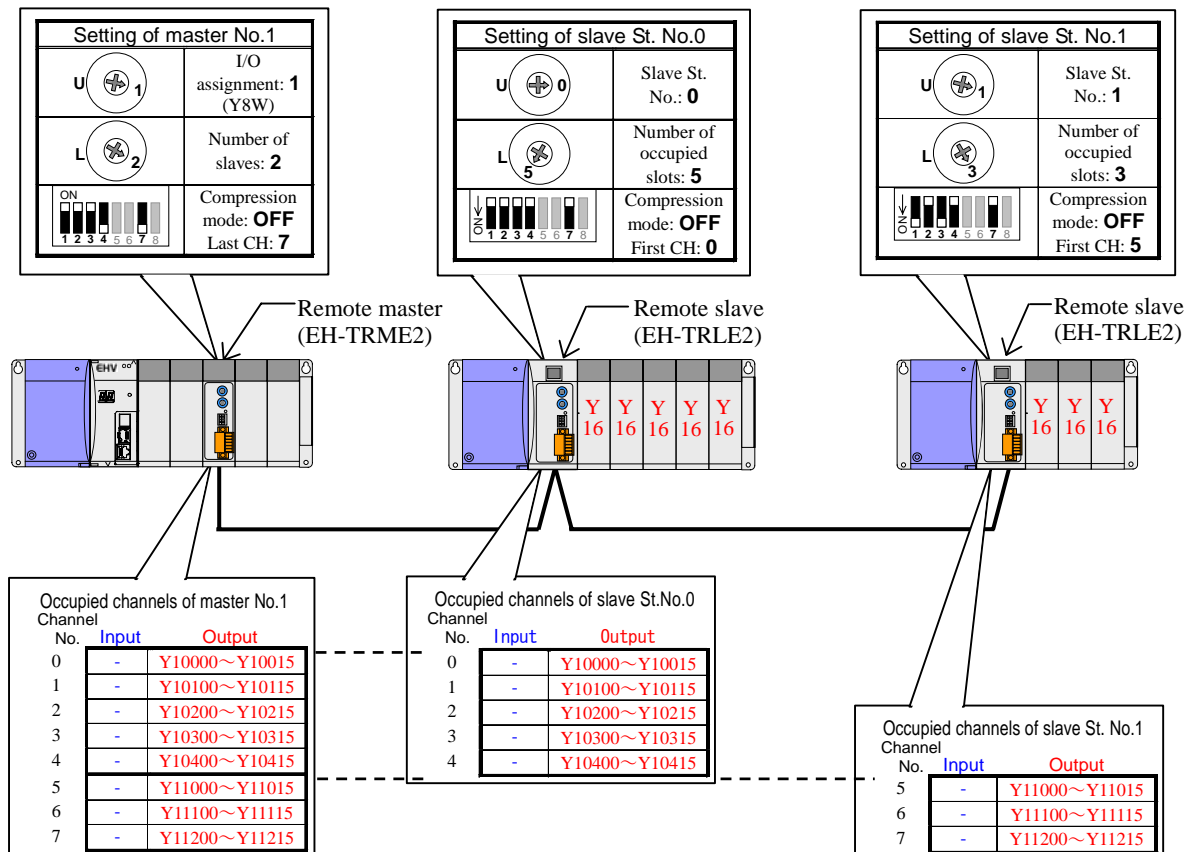

Figure 4.5.2 System configuration example after replacement to EH-150 (Mode1)
Figure 4.5.2 shows replaced system configuration example with compact remote2.
Figure 4.5.2 is an example of replacing all of master and slave modules with the EH-150 series. It is also possible to leave all or partially slave modules like the H-200 series in order to postpone the wiring work of slaves. In this case, please turn off high-speed refresh mode (HS) of a front DIP switch of the master module and the slave modules, and turn on communication mode (MODE) of a front DIP switch of them.